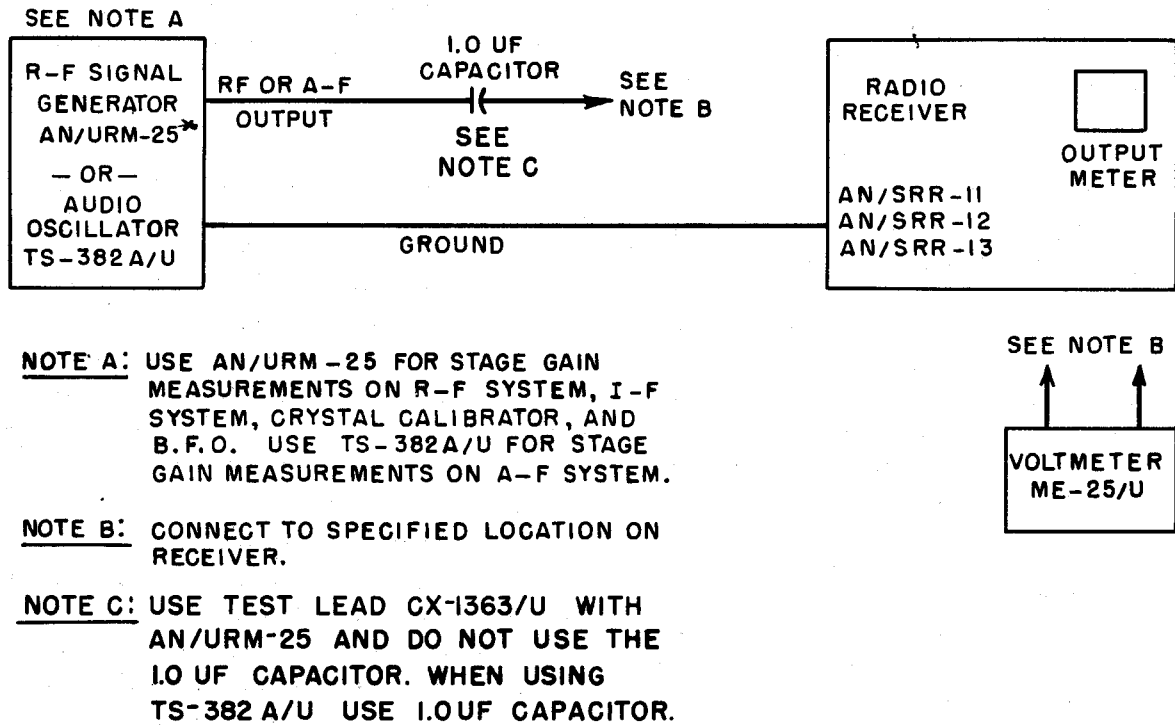

Figure 7-2. Test Set-Up for Stage Gain Measurements
a. DIAL LIGHT AND FUSES.—Turn the POWER switch to ON and check the dial light. If the dial light is glowing, this indicates that the power input and power transformer, T1601, primary circuits are operating. In this case follow with step *b* of this procedure. If the dial light is not glowing, switch the LAMPS control to the SPARE position; if the dial light still does not glow and the receiver is dead, then replace fuses F1601 and F1602 located on the bottom of the power supply assembly, as shown in figure 7-2. If this does not correct the trouble, then see paragraph 3 (*a*) of this section.
Stage gain measurements are listed in Table 7-3. The measurements should be taken as called for in paragraph 2 or 3 of this section. If a measured stage gain does not agree to within approximately 30% of the value given in Table 7-3, then replace the stage. If this fails to correct the trouble, then take voltage and resistance measurements of the stage and associated components to locate the trouble. To measure stage gain, refer to the appropriate portion of Table 7-3 and to figure 7-2, which shows the test set-up, and proceed as follows:
a. Refer to figure 7-2 and connect a signal generator or audio oscillator as called for in Table 7-3 to the point designated as input location on that Table (location of points for test equipment connection on the receiver is shown in figure 7-1, sheets 1 and 2).